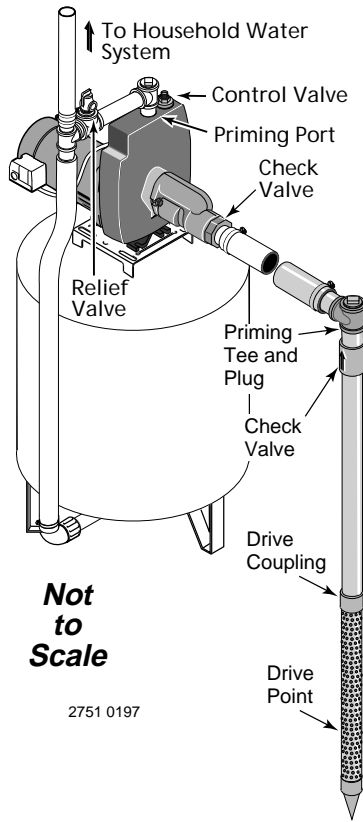

Figure 4: Driven Point Installation
WELL POINT INSTALLATION (Figure 4)
- Step 4. Use the fewest possible fittings (especially elbows) when connecting the pipe from the well point to the pump suction port. The suction pipe should be at least as large as the suction port on the pump (include a check valve – see Figure 4). Support the pipe so that there are no dips or sags in the pipe, so it doesn't strain the pump body, and so that it slopes slightly upward from the well to the pump (high spots can cause air pockets which can air lock the pump). Seal the suction pipe joints with teflon tape or pipe joint compound approved for use on PVC. Joints must be air- and water-tight. If the suction pipe can suck air, the pump cannot pull water from the well. If one well point does not supply enough water, consider connecting two or three well points to one suction pipe.